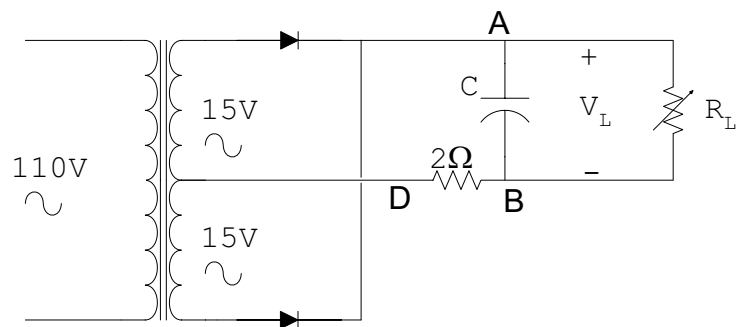

Fig. 4
- Refer to the circuit shown in Fig. 4. Use the oscilloscope to read the AC voltages across AB and BD.
For the circuit shown in Fig. 4: